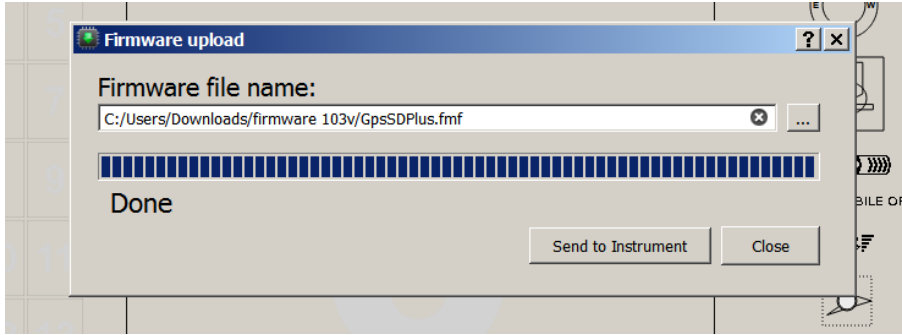

Figure 7.2: Firmware Update Done
6. When the process is finish the application shows a message saying *complete* (see Figure 7.2). Disconnect the USB cable and the LIVE SD will start to work.